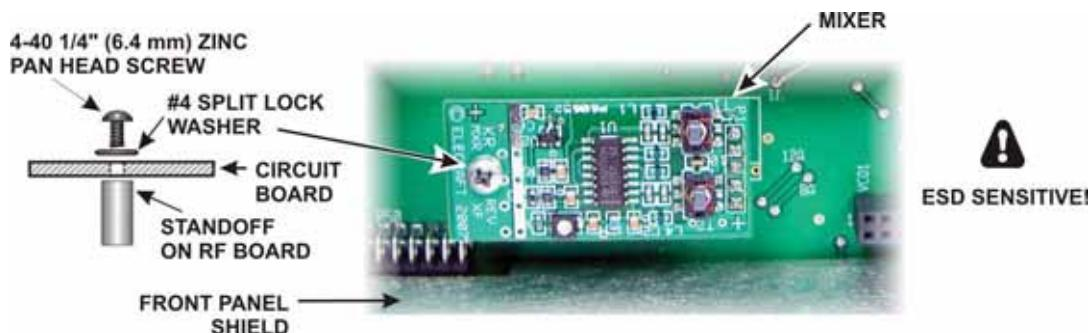

Figure 14. Installing Mixer Board.
- Mount the K3 mixer board on the RF board as shown in Figure 14. The mixer plugs into Z1 on the RF board.